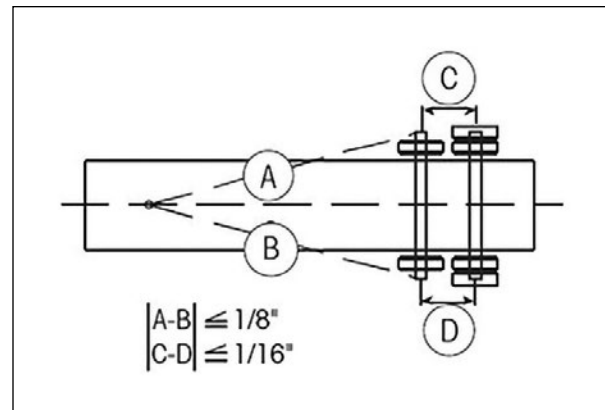

Figure 30 – Measurement Schematic
4. Measure the distances "A" and "B" from the kingpin to the forward axle as show in Figure 30 below. These distances must be within 1/8" (3.2 mm) of each other. After aligning the front axle with the trailer kingpin, then align the centre axle with the front axle, then align the rear axle to the centre axle.
The gauge sketched in Figure 30 simplifies measuring the inter-axle distances "C" and "D". The gauge can be made of drill rod or pipe fittings. The material and details are not important as long as the parts are rigid and true. The pointer arms of the gauge should be parallel and held in the same plane.